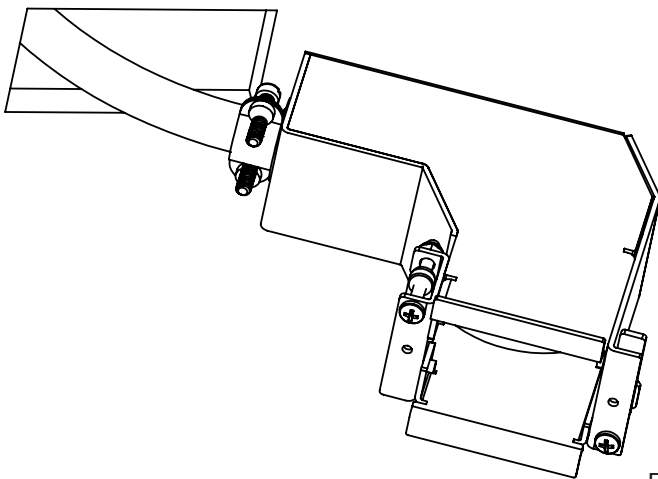

Fig. 3
12. Feed the Minibox into the wall opening at a slight angle (Fig. 3) until the side tabs (H) are pressed against the mounting surface. (Fig. 3)